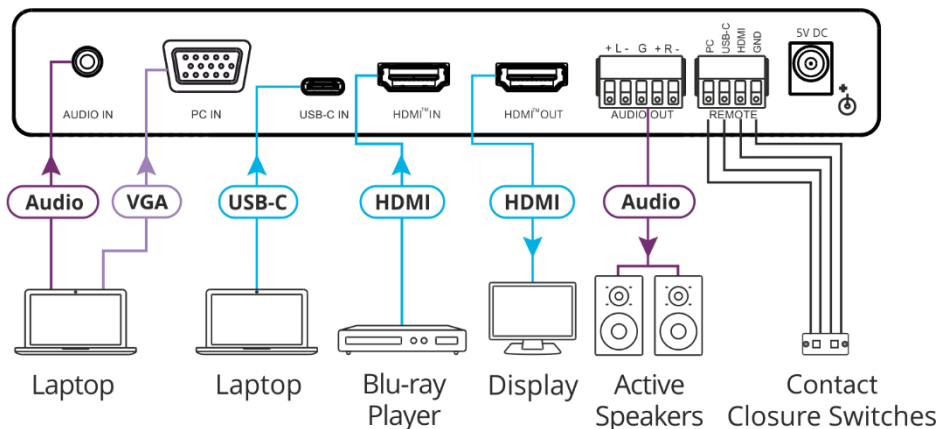

Figure 5: Connecting to the VP-426C Rear Panel
To connect the VP-426C as illustrated in the example in Figure 5:
- The unbalanced stereo audio PC source to the AUDIO IN 3.5mm mini jack (11).
- The VGA signal to the PC 15-pin HD connector (12).
2. Connect a USB-C source (for example, a laptop) to the USB-C port (13).
3. Connect an HDMI source (for example, a Blu-ray player) to the HDMI IN connector (14).
4. Connect the HDMI OUT connector (15) to an acceptor (for example, a display).
5. Connect the AUDIO OUT 5-pin terminal block connector (16) to a balanced stereo audio acceptor (for example, Kramer **TAVOR 6-O** active speakers).
6. Connect the REMOTE 4-pin terminal block connector (17) to contact closure switches (for example, Kramer **RC-22TB**).
7. Connect the power adapter to the **VP-426C** power connector (18) and to the mains electricity (not shown in Figure 5).
To connect the VP-424C as illustrated in the example in Figure 5:
1. Connect a USB-C source (for example, a laptop) to the USB-C port (13).
2. Connect an HDMI source (for example, a Blu-ray player) to the HDMI IN connector (14).
3. Connect the HDMI OUT connector (15) to an acceptor (for example, a display).
4. Connect the REMOTE 4-pin terminal block connector (17) to contact closure switches (for example, Kramer RC-22TB).
5. Connect the power adapter to the **VP-424C** power connector (18) and to the mains electricity (not shown in Figure 5).